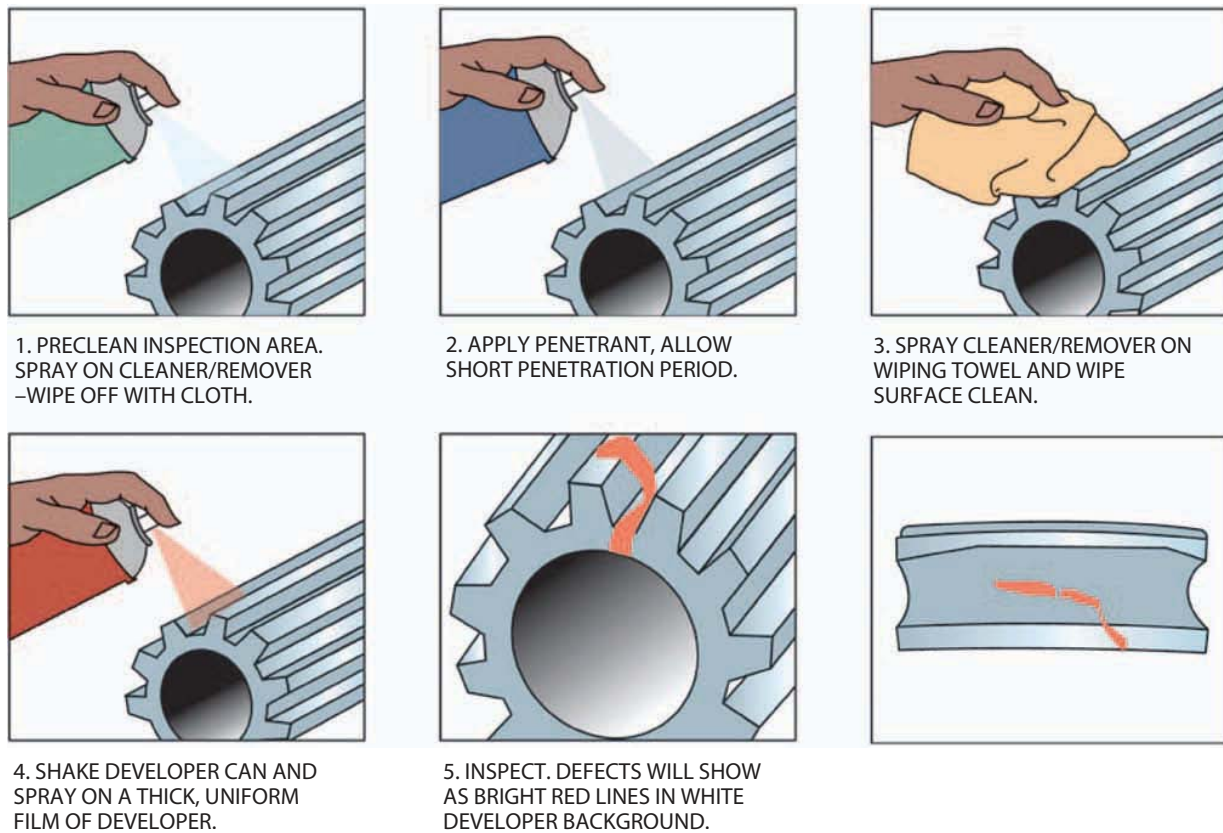

FIGURE 30-35 Penetrant testing. Magnaflux, A Division of ITW
5. Depending upon the type of penetrant applied, visual inspection is made under ordinary white light or near-ultraviolet black light, Figure 30-35. When viewed under this light, the penetrant fluoresces to a yellow-green color, which clearly defines the defect.